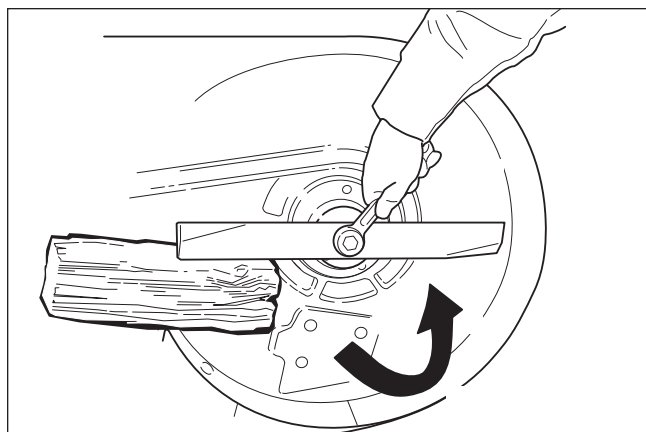

Figure 21. Loosening the Mower Blade for Removal
1. To remove the mower blade, wedge a wooden block between the mower blade and the mower deck housing to keep the blade from turning and remove the mower blade mounting bolt with a 15/16" wrench (**Figure 21**).